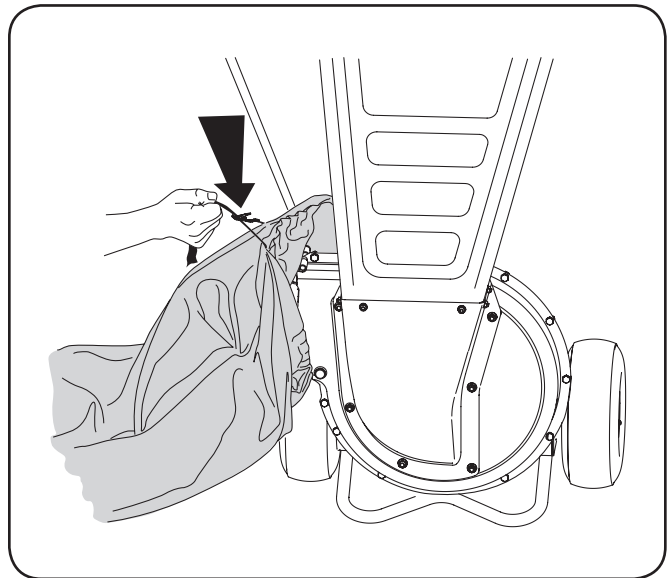

Figure 5-3
2. Squeeze the locking buckle to release the bag's draw-strap from the chute deflector. See Figure 5-3.